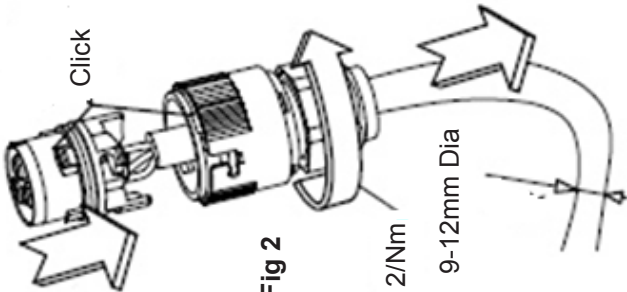

Fig 2
- 3. Tighten the IP66 seal round the cable and push the connector into the connection housing until it clicks. (Fig 2).